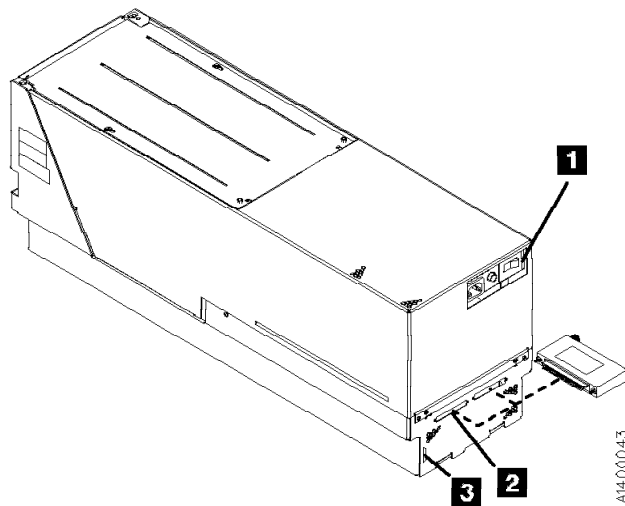

Figure 271. Installing SCSI Wrap Tool (Rear View)
- ___ 1. See Figure 271. Set the power switch **1** to the OFF position.